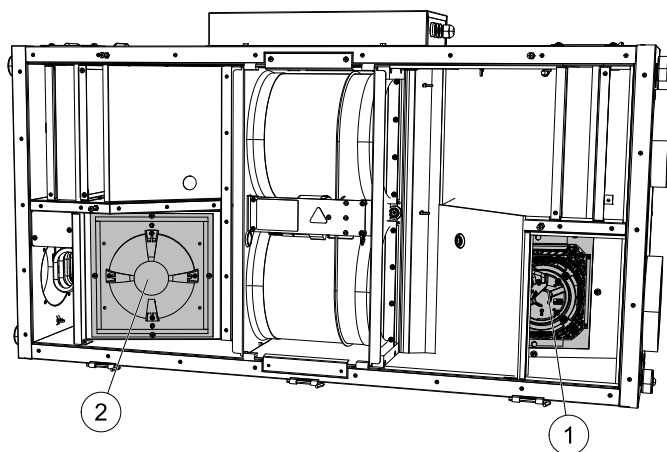

Fig. 5 Extract (1) and supply (2) air fans
In this view, figure 5, the extract air fan (1) is removed by loosening two screws by hand and the supply air fan (2) by loosening four screws using a screwdriver. If the other side cover is opened, the supply air fan is removed by loosening two screws by hand and the extract air fan is removed by loosening four screws using a screwdriver.